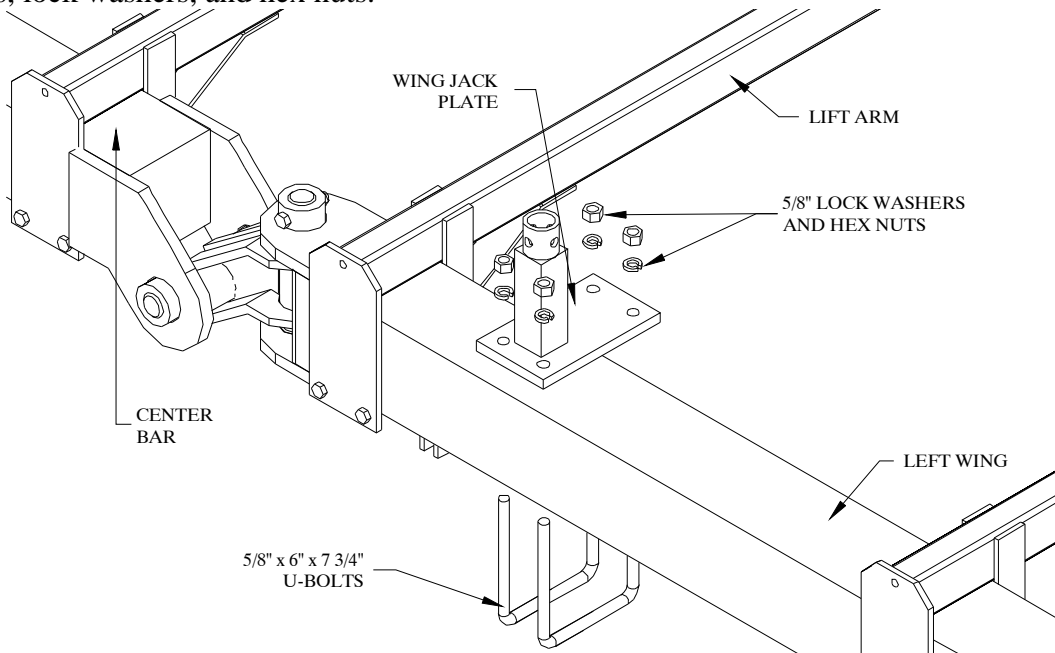

Figure 23
1. Attach the wing jack plates to the wing tubes. Refer to Figure 23. Use 5/8" x 6" x 7 3/4" U-bolts, lock washers, and hex nuts.